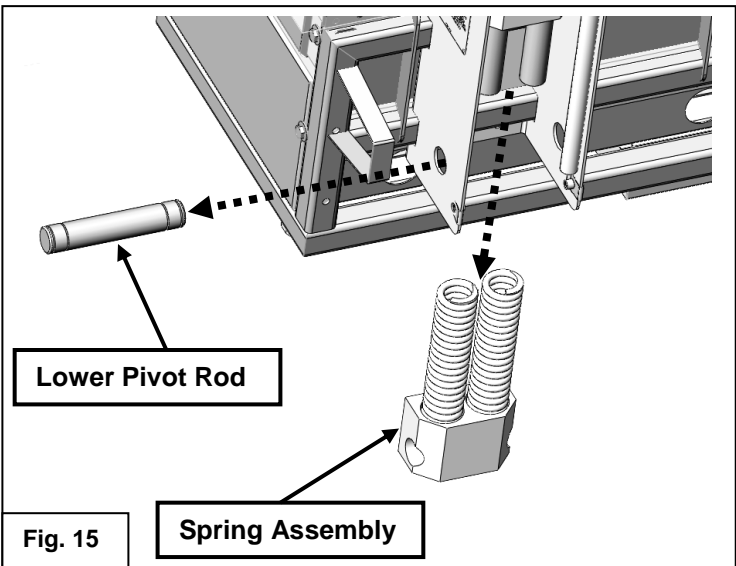

Fig. 15
17. Remove the lower pivot rod, then remove the spring assembly as shown in Fig 15.